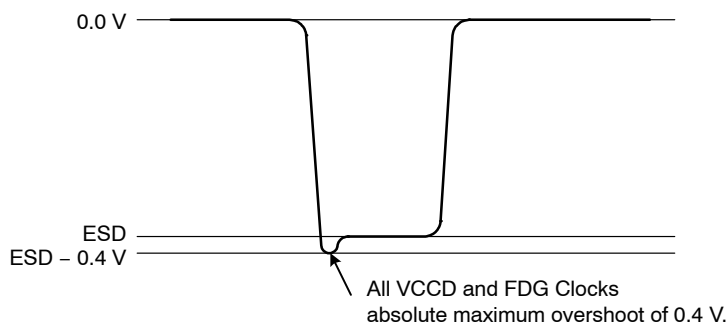

Figure 13. VCCD Clock Overshoots
4. The VCCD clock waveform must not have a negative overshoot more than 0.4 V below the ESD voltage. See Figure 13.